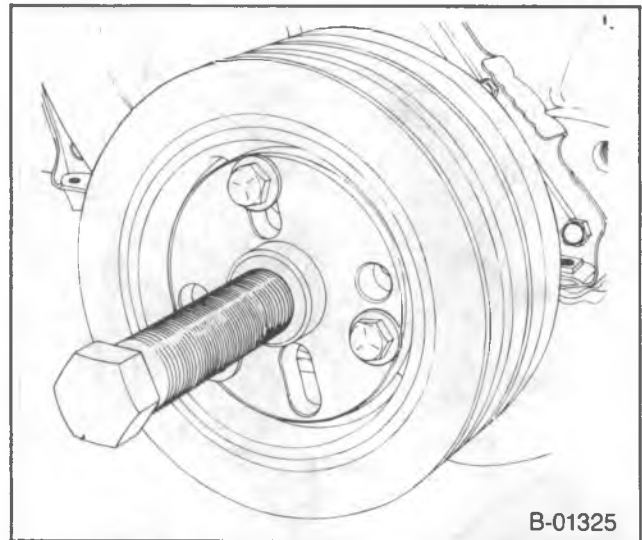

Figure 15—Removing the Torsional Damper
1. Bolt (160) and washers (159 and 161).
2. Torsional damper (162). Use J-23523-E (figure 15).